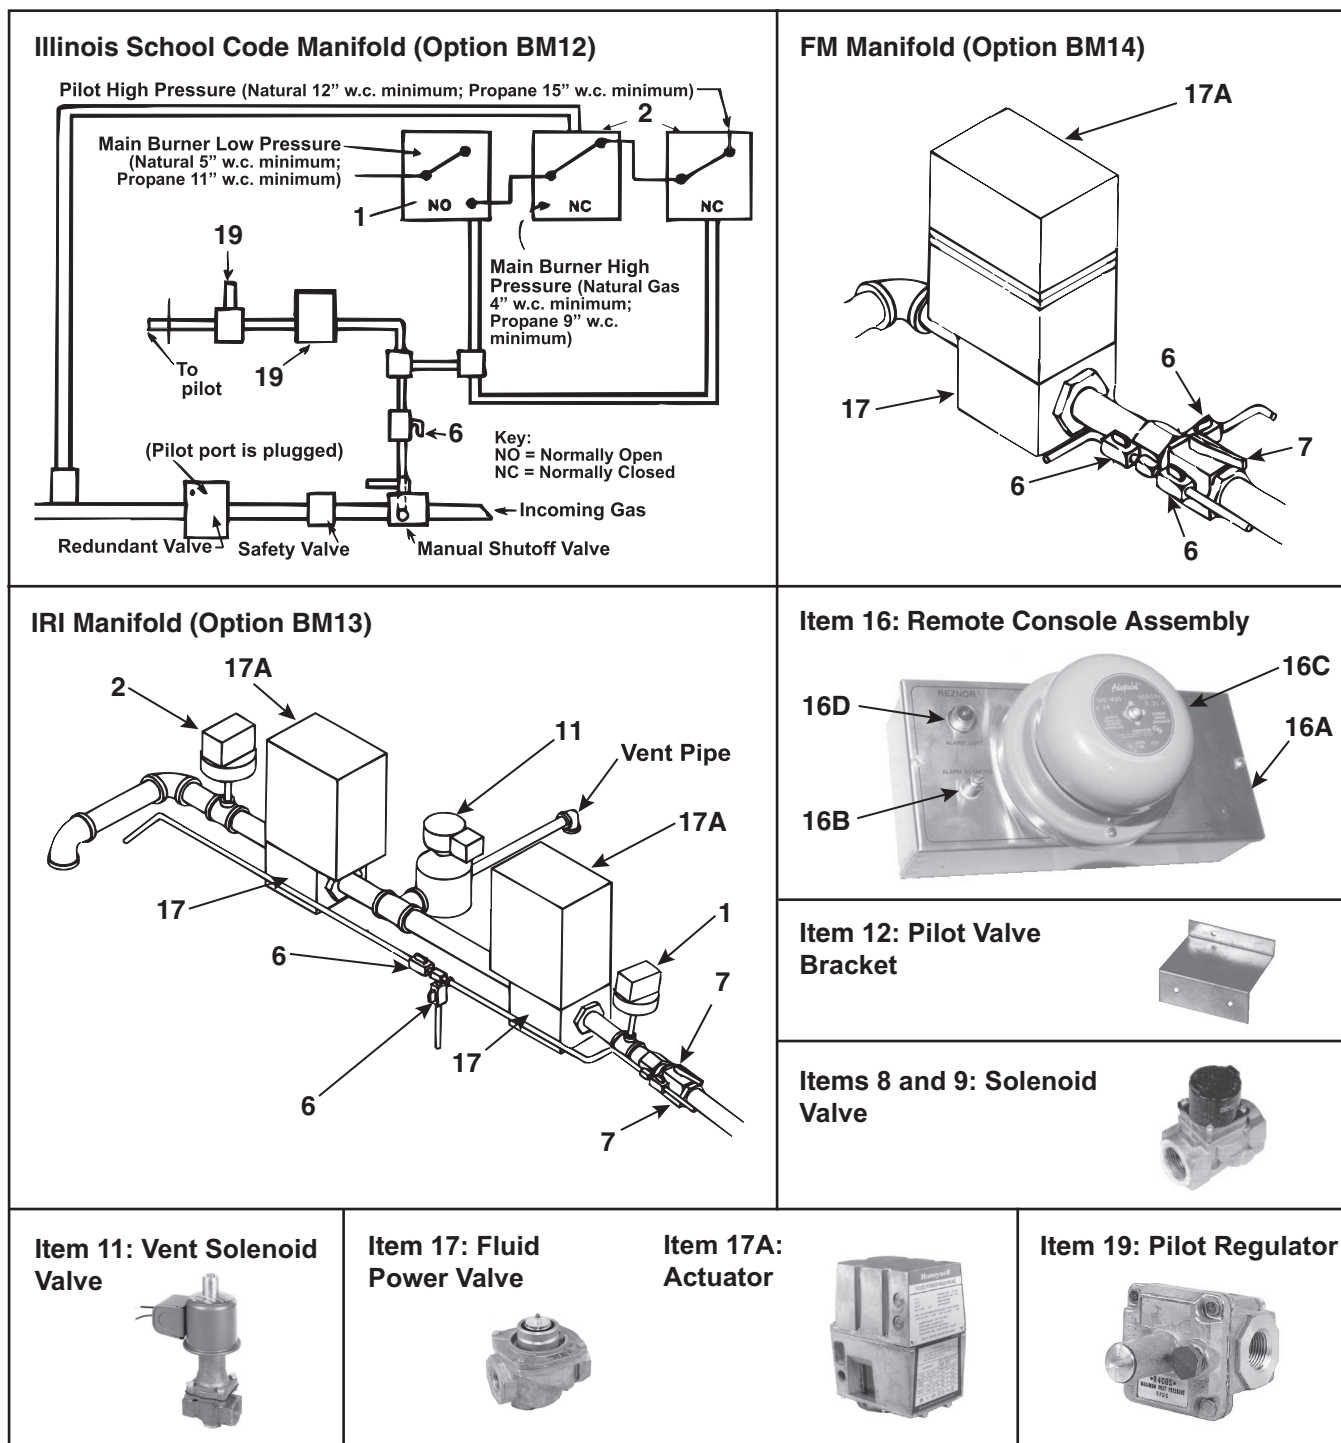

Figure 18. Special Manifold Components (Refer to Table 25)
- The FM manifold (option BM14) is available on models RPBL and (C)RGBL (unit sizes 500–1200) and model PGBL (unit size 1200).
- Special manifold components are shown in Figure 18 and listed in Table 25.